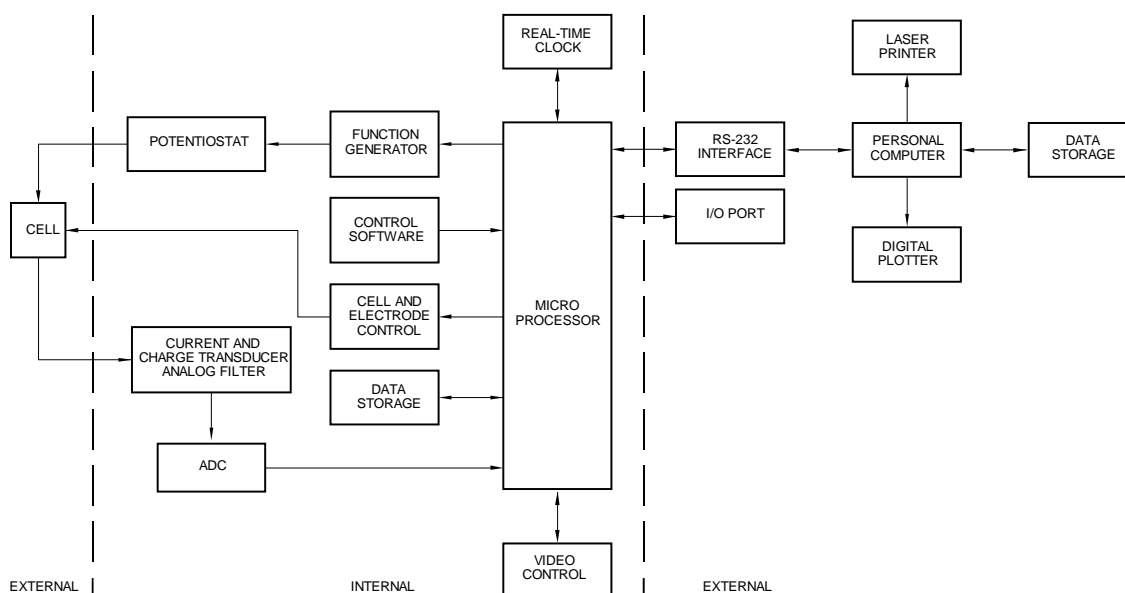

Figure 1-1. Block diagram of the BAS 100B/W Electrochemical Workstation.
This is the Operation Manual for the BAS 100B/W Electrochemical Workstation. It is the fourth generation of a microprocessor-based Electrochemical Analyzer series that started in 1983. The BAS 100B/W uses the latest advances in Personal Computer (PC) technology to increase the efficiency and versatility of the user interface. The MS Windows interface allows instrument control and data storage and processing, together with data presentation on the PC monitor, laser printer or digital plotter. These functions are shown in a block diagram in Figure 1-1.